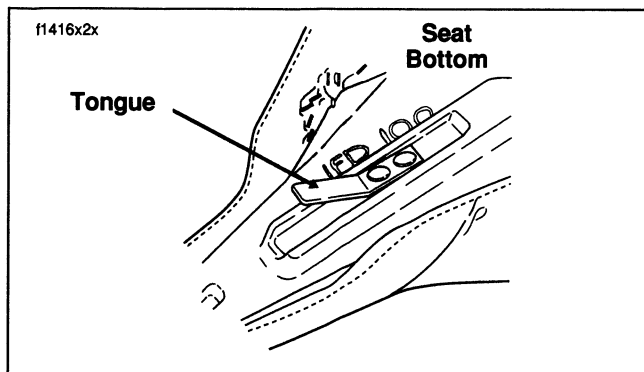
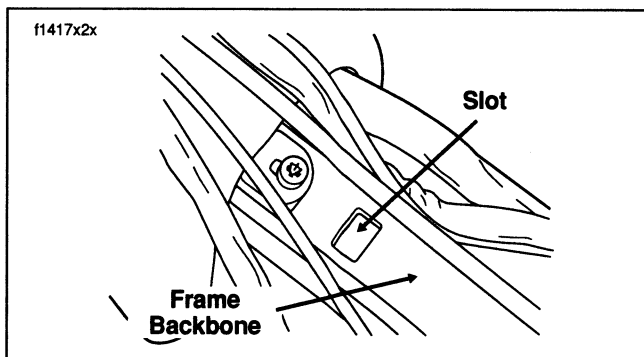

Figure 62. Seat Mounting Tongue
Figure 63. Seat Mounting Slot
4. See Figure 62. and Figure 63. Push seat rearward to free tongue at front of seat from slot in frame backbone.
1. See Figure 63. Place seat on frame backbone.
2. See Figure 62. Firmly push front of seat downward and rearward until tongue engages slot in frame backbone.